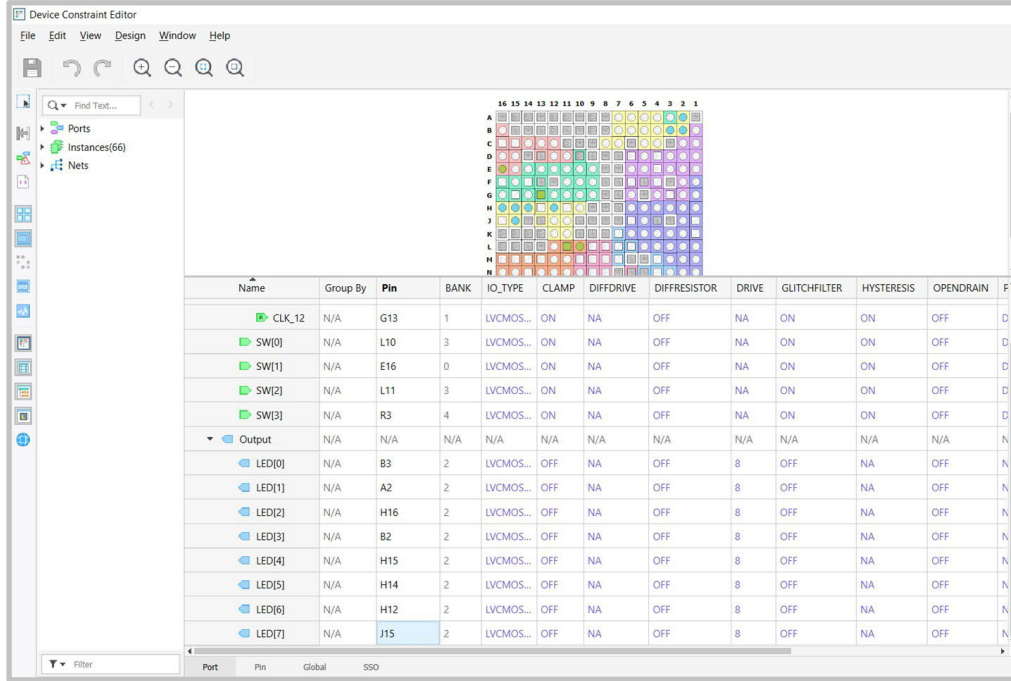

Figure 13: Performing Pin Assignment
12. Once the design has been synthesized, assign the pin numbers to their respective signals, see **Figure 13**.